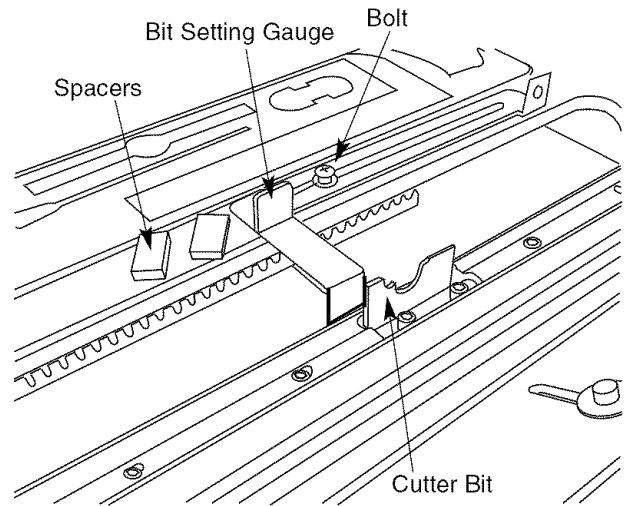

Figure 16 - Using the Bit Setting Gauge to Install Cutter Bits
The bit setting gauge (see Figure 16) is used when mounting three piece molding bits in the planer/molder cutterhead. The gauge aligns the bits in the cutterhead so that all three bits cut the workpiece in the same position providing precise cuts and improved surface finish.
- Using the 5mm socket head bolt (Key No. 9) used to mount the blade cover, mount the bit setting gauge to the top of the planer/molder as shown in Figure 16.